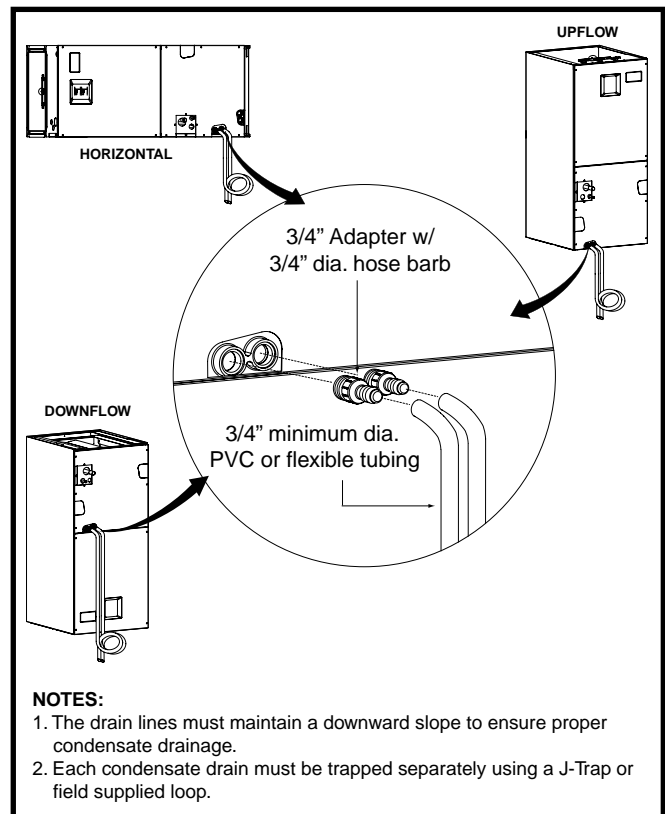

Figure 9. Condensate Drainage
- The drain pan that is supplied with this air handler contains a primary and secondary drain fitting. The condensate is drained from the unit through two 3/4" female pipe fittings located on the front side of the unit as shown in Figure 9.